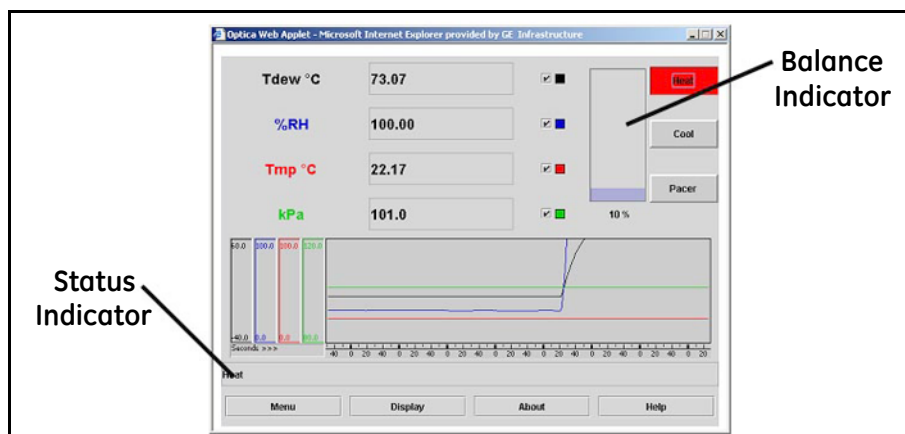

Figure 44: Balance and Status Indicator on Optica Display
- The *balance indicator* (shown in Figure 44 below) provides a graphic display of how much light is received by the mirror’s photodetector. It is also an indicator of the dew layer thickness. This indicator increases and decreases in digital steps.
1. From the Optica analyzer, press the soft-key next to the **HEAT** button, or, from the *Optica Java* applet running on your PC, move your mouse pointer over the **HEAT** button and click. The button will turn red, as shown in *Figure 44* on page 75.